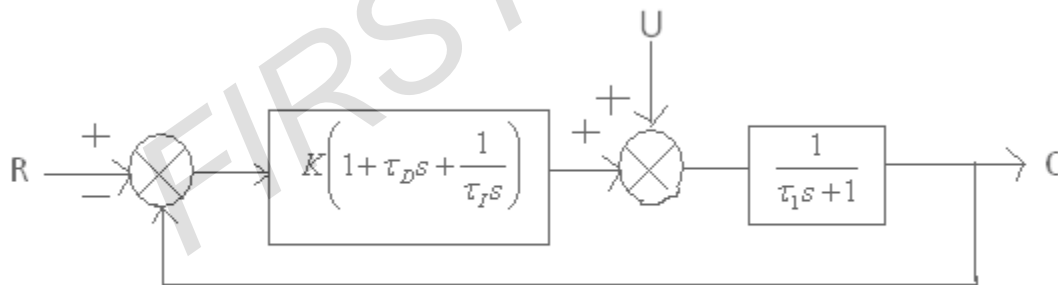

Figure 6:
2. A control system shown below figure 6 contains a three-mode controller.